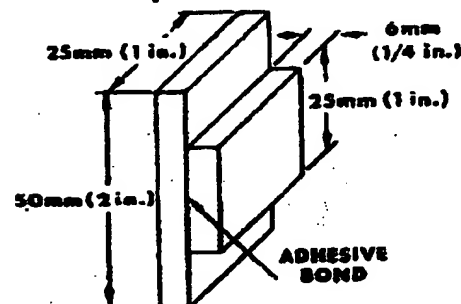

FIG. 1 Compression Shear Specimen
6.3.2.1 Cut 1 by 1-in. (25 by 25-mm) and 1 by 2-in. (25 by 50-mm) sections from $\frac{1}{8}$ -in. (6-mm) thick sheet made from Class 12454-B PVC. One section of each size is required for each test specimen (Fig. 1).